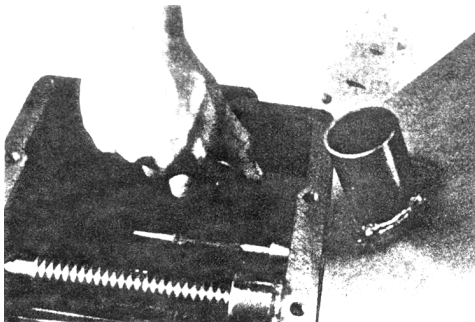
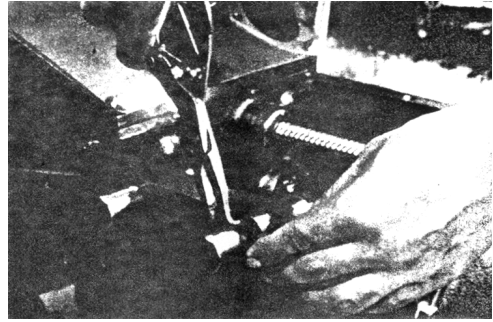

Fig. 3-28
Fig. 3-29
f) Place the rotating rod and O-ring into the transmission case (See Fig.3-28) and fix them with a clip ring (See Fig.3-29).